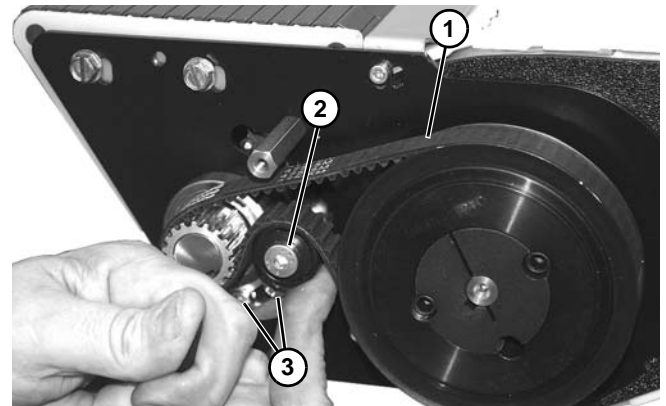

Figure 146
- On idler end, route and install belt (**Figure 146, item 1**) as shown. Press up on tensioner (**Figure 146, item 2**) and tighten two socket head screws (**Figure 146, item 3**).